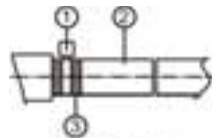

Fig 4.3.2
- (1) Insert the drain hose into the drain hole and tighten it with tape, as shown in Fig 4.3.2.
- (2) Tighten the pipe clamp, with the distance between screw nut and hose smaller than 4mm(1/8inch).
- ① metal clamp(accessory)
② drain hose(accessory)